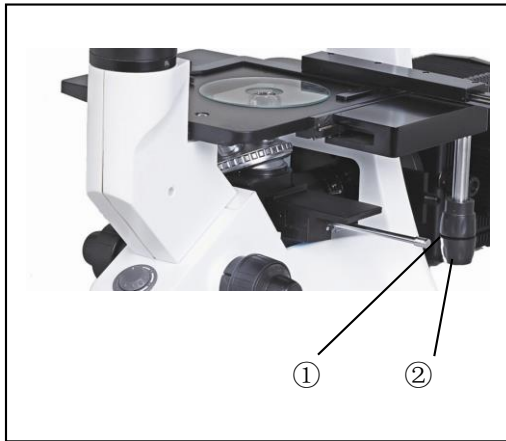

Fig 4
3.1.5 Mounting Auxiliary Stage (fig 4)